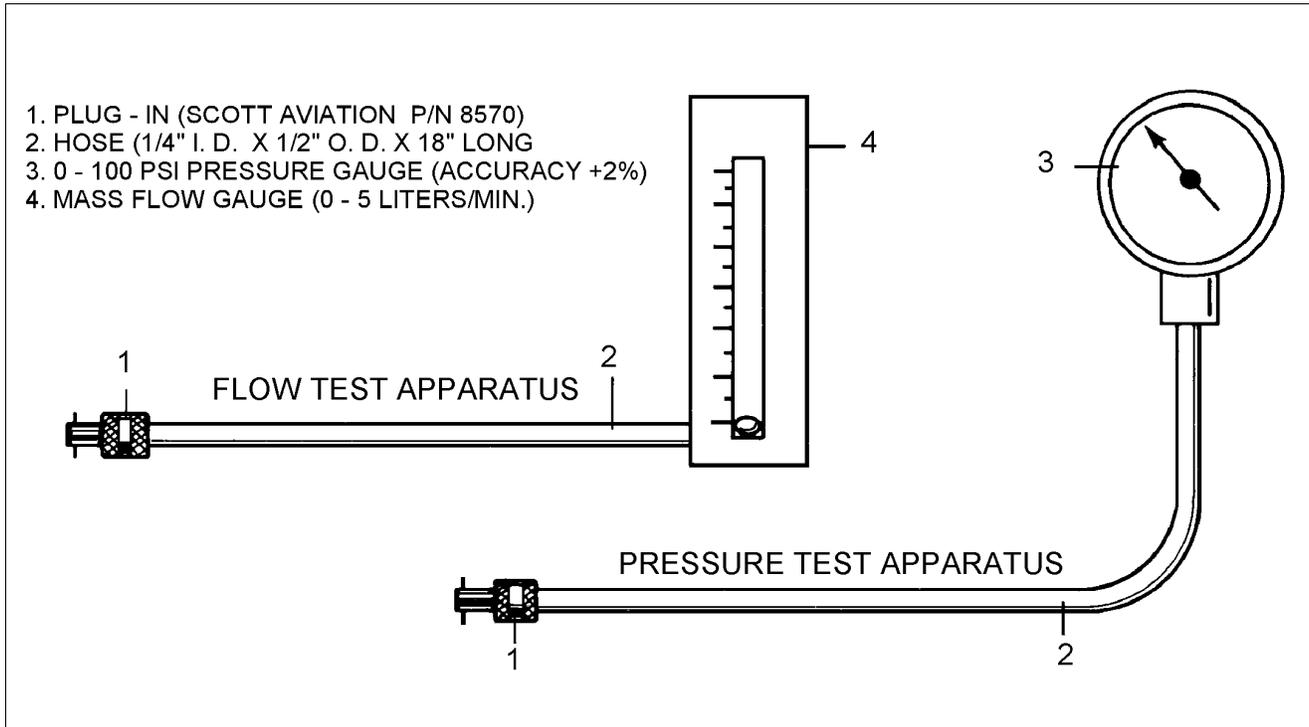

Figure 35-2. Test Apparatus For Testing Oxygen System
- d. An operational check of the regulator can be accomplished as follows: (Refer to Figure 35-2.)
- (1) Using an 18 inch (45.72 cm) long hose having a 1/4 in. (0.635cm) I.D. x 1/2 in. (1.27cm) O.D., attach a Scott Aviation 8570-00 plug-in to a sensitive pressure gauge having a range of 0 to 100 psi. Connect the apparatus to the pilot's outlet in the overhead panel.
- (2) Using a second 18 inch long hose having a 1/4 in. (0.635cm) I.D. x 1/2 in. (1.27cm) O.D., attach a Scott Aviation 8570-00 plug-in to a pneumatic flow apparatus having a range of 0-5 liters per minute. Connect the flow apparatus to the copilot's outlet.
- (3) Insert a Scott plug-in in each of the other outlets and pull the oxygen control knob to the on position. The pressure and flow at sea level should be 55 to 80 psi and 3.3 to 5.3 liters per minute respectively.